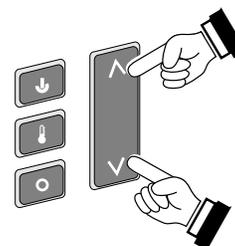

Figure 9
- STANDARD THERMOSTAT** - While in standard thermostat setting, the transmitter will turn the burner on and off to achieve the target temperature (see Figure 9 below). To adjust the target temperature, press the up and down buttons until a suitable temperature is achieved.